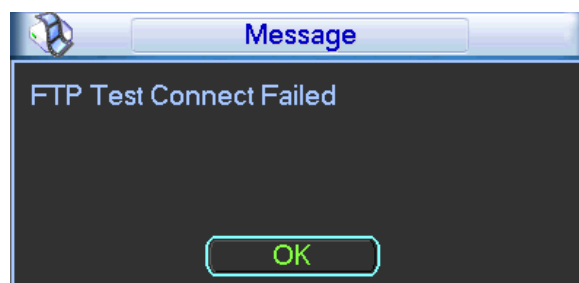

Figure 3-48
5. Click the **Test** button. The corresponding dialog box appears to show that the FTP connection is OK. See Figure 3-48.